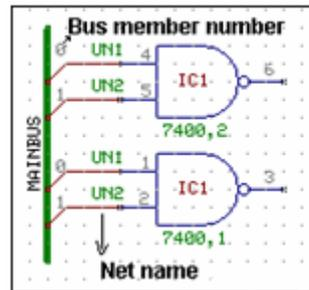

Fig1.8 Inserting text labels
In Schematic editor, connections between component entries may also be wired using BUSES. Bus is a group of wires carrying signals. These wires are called Bus Members and should be joined in branches (T-connected) by junction points. Each bus member has a specific number and assigning same bus member number creates merged nets. The net names and bus member numbers may be set under Preference/ Instant Wire label, to appear immediately in the form of movable text labels and may be placed as shown in Fig. 1.8.
*In Fig: 1.8, the connection having same bus number belong to same net*